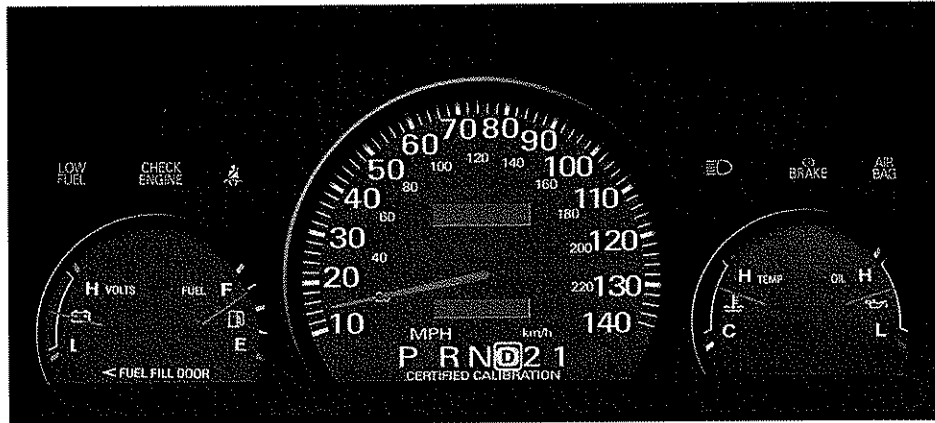

Figure 2 – Crown Victoria Dash. Actual Crown Victoria instrument cluster used on the PatrolSim™.
- Directional sound capabilities provide students the ability to quickly locate objects, determine the direction, type and/or threat (gun shots, horns, screams) of sounds within the driving environment (figure 2) - up to 64 simultaneous sounds